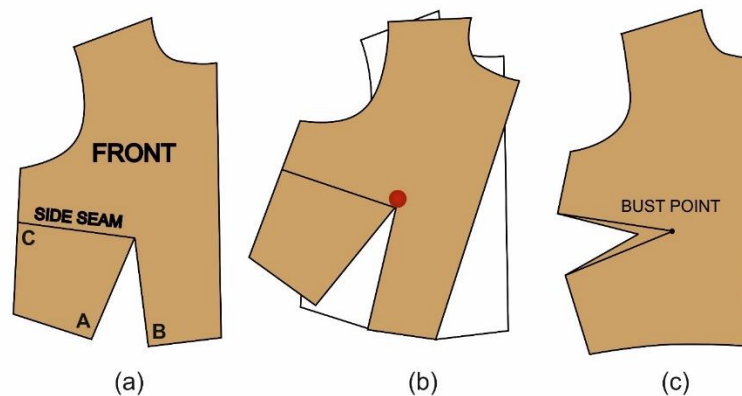

Fig.2.9 (a, b &amp; c) Pivot method
Pivotal method is mainly used in the manufacturing industry as it is quick and easy to shift dart positions. It does not require a slash (cut) and join technique. Following are the steps to relocate darts using pivotal methods (see Figure 2.9) :
- Once the pattern is pinned, mark a point on the pattern where the dart has to be relocated on the pattern ( In Figure 2.9 the relocation is done from the waist to the side dart).
- Now, on the pattern paper trace the pattern from dart leg (A) to the new position point on the pattern (C).